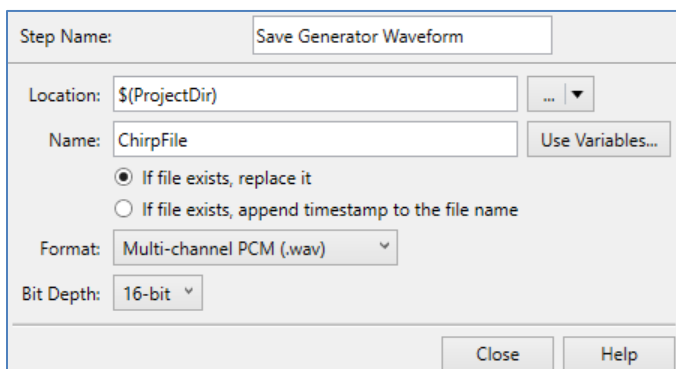

Figure 26. The sequence step to save the Acoustic Response generator waveform to a .wav file.
- A sequence step in the Acoustic Response Measurement to save the generator waveform to a .wav file (Figure 26). As shown, this step uses the APx system variable ProjectDir to save the .wav file to the folder containing the project file.